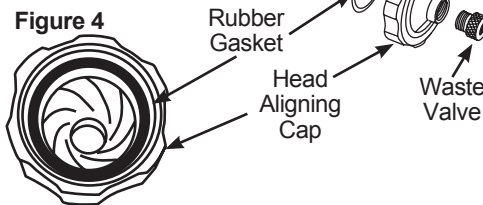

Figure 4
3. Place the **Rubber Gasket** onto the flat surface on the inside of the **Head Aligning Cap** below the threads. The **Rubber Gasket** is properly installed when it lays flat on the surface (Figure 4).
7. Loosen the **Head Locking Screw** on the **Juicer Motor** until it no longer protrudes into the receptacle for the **Head Assembly** (Figure 4).